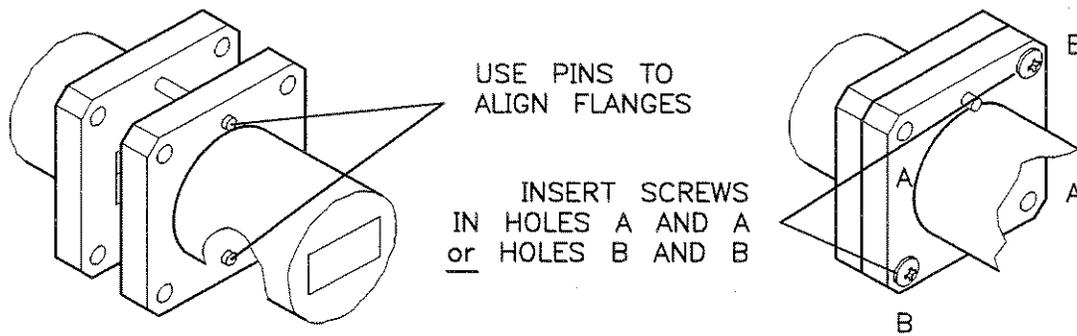

Figure 4-3.
2. Using the pins as guides, carefully align the flanges, and insert screws in two opposite corner holes (Figure 4-3).